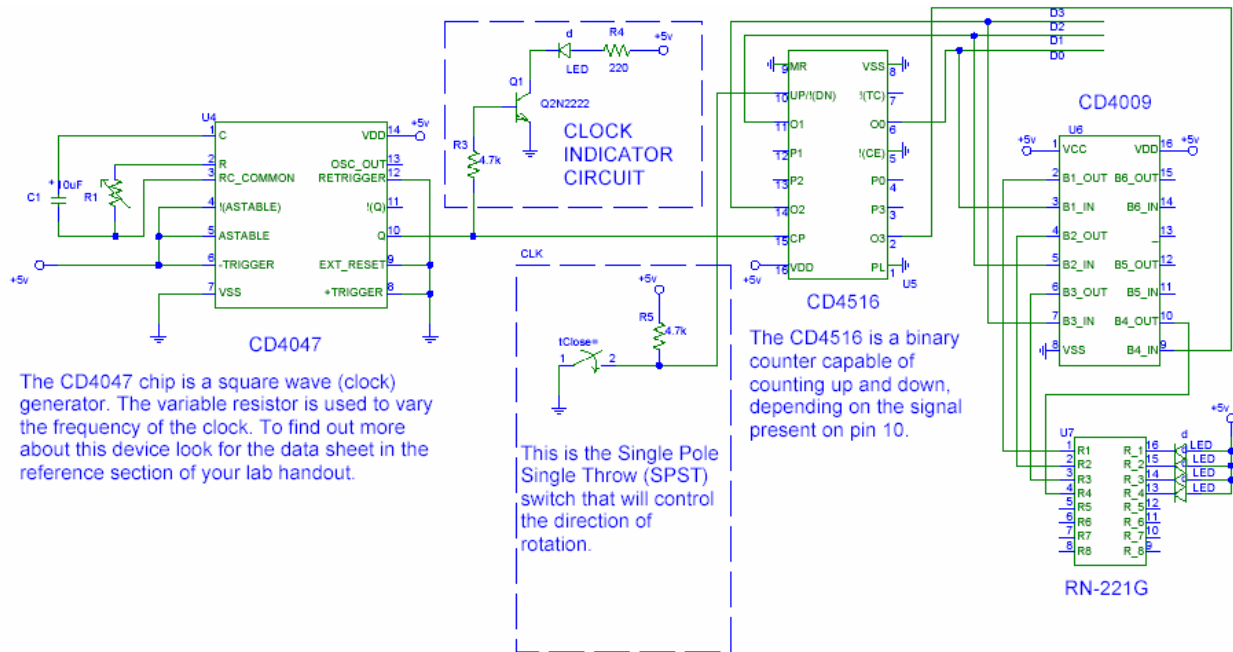
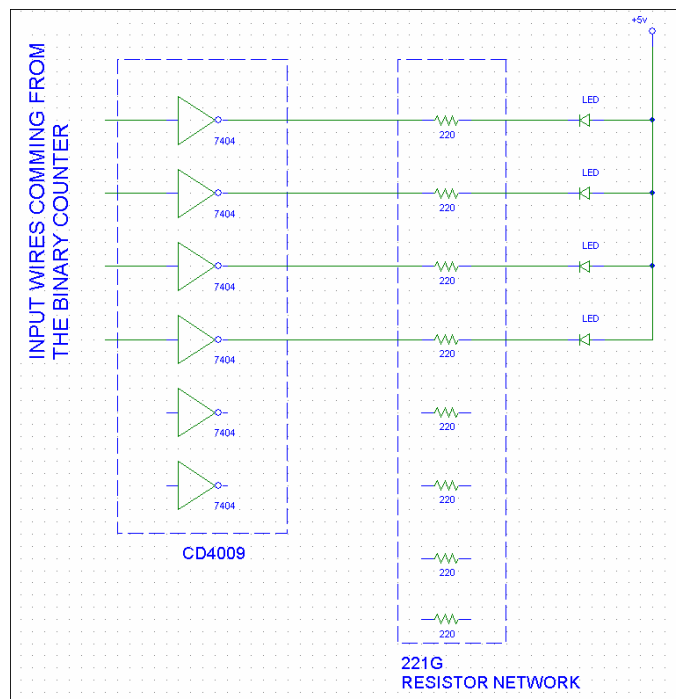
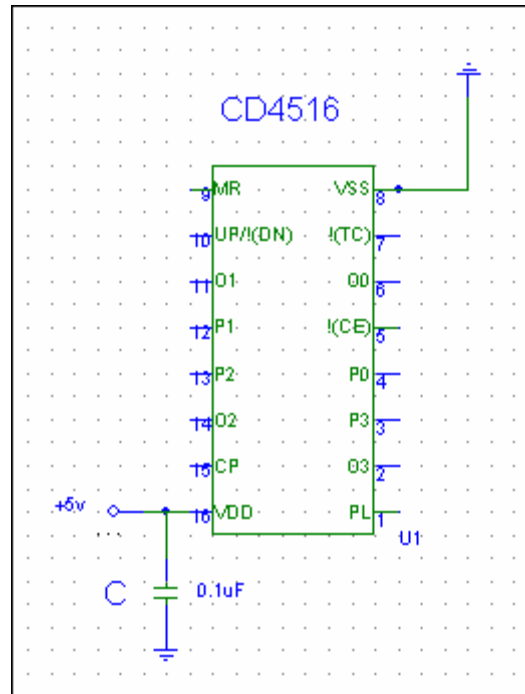

Figure 4.1
Figure 4.2
Figure 5.1
But a clock by itself doesn’t serve any purpose. We need a counter that will count the ticks of the clock. We have chosen to use a 4-bit binary counter, CD4516. **Note that we will use the lower 2 bits of the counter, because in order to address our 4-bit data for controlling the motor we need only 2-bits ($2^2 = 4$).** Figure 4.1 shows the circuit for clock generation and binary counting. Notice that the 4 outputs from the CD4516 (the counter chip) are wired to a hex inverting buffer who’s outputs are wired to LEDs through a resistor. Figure 4.2 show a more detailed picture of the CD4009, the resistor network and the LEDs. Note that this part of the
Wire up the circuit shown in Figure 4.1. Here are the guidelines that you **must follow** when wiring up the circuit. **These guidelines are set in place so you will learn how to wire up neat and organized circuits on a breadboard!** We recommend that you follow these guidelines in all successive lab courses you take at MTU. **If you choose not to follow these guidelines, your T.A. will not help you with debugging your circuit.**
- **Note on the use of decoupling capacitors in electrical circuit designs:** A common problem in all electronic systems is the inductance associated with power supply lines. When transistors in integrated circuits switch, the change in current can result in a significant voltage drop across power lines of a chip (di/dt noise). DC supply voltage must be filtered from fluctuations and this is done by adding decoupling capacitors. The rule of thumb is to place a decoupling capacitor as close as possible to the pin on the chip that is connected to a power rail. Figure 5.1 illustrates an example of where a decoupling capacitor should be placed when wiring up a CD4516 chip. In this **and all other labs** you will do at MTU we expect you to use decoupling capacitors. If you notice, in the diagrams shown in figures 4.1&4.2 we do not show the decoupling capacitors. **It is your job to place these capacitors in every circuit you build, regardless of whether they are shown on the diagram or not.**
- **Note on using CMOS devices in your design:** If you notice in figure 4.1 & 4.2 we do not show the unused pins, on each chip, being connected to anything. **You should not leave them unconnected!** Integrated Circuits, a.k.a chips, built in CMOS technology **must** have all of their inputs connected even if not all of the inputs are used. This is because inputs on a CMOS chip can easily “be driven” by a static electric charge thus making the circuit behave at best unpredictable.
Before you power on your circuit have your T.A. inspect the circuit and sign the signoff sheet. When your T.A OKs your circuit, power it on! You should see the LED that is part of the “clock indicator circuit” (see figure 4.1) blink on every tick of the clock. The 4 LEDs should be turning on and off, representing the bit sequence as the counter chip counts.
- Using a voltmeter confirm that all chips on the breadboard are getting +5V on the proper pins. Refer to figure 4.1 to see which pins, on each chip, should be wired to +5V;
1. The circuit shown in Figure 4.1 is wired properly (or at least it will not blow up when powered up);
2. Demonstrate the functionality of the circuit shown in Figure 4.1